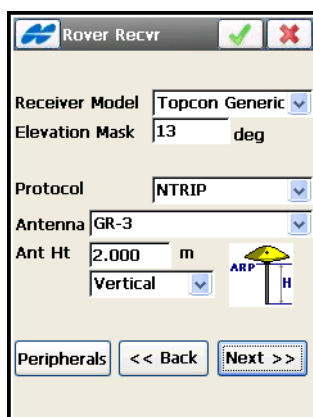
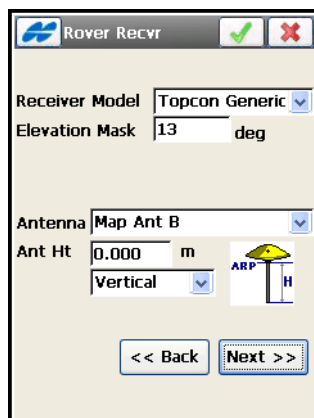

Figure 3-24. Rover Receiver Options for Network RTK and Network DGPS
Figure 3-25. Rover Receiver Options for PP Kinematic and PP DGPS
**For Network RTK and Network DGPS surveys** the screen displays the following parameter fields (see Figure 3-25 on page 3-26). For a description of these parameters, refer to “For RTK surveys,” on page 3-22. In addition, the *Protocol* field is turned on by default (Figure 3-24).
**For PP Kinematic and PP DGPS surveys**, the screen displays the following parameter fields (see Figure 3-25 on page 3-26). For a description of these parameters, refer to “For RTK surveys,” on page 3-22.